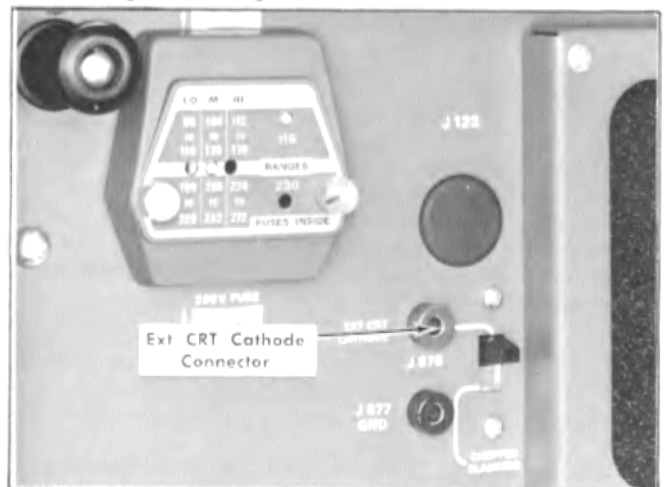

Fig. 6-20. Location of Ext CRT Cathode connector (rear panel)
b. Connect a second coaxial cable and a BNC to Banana Plug patch cord from the T connector to the EXT CRT CATHODE connector (Fig. 6-20).